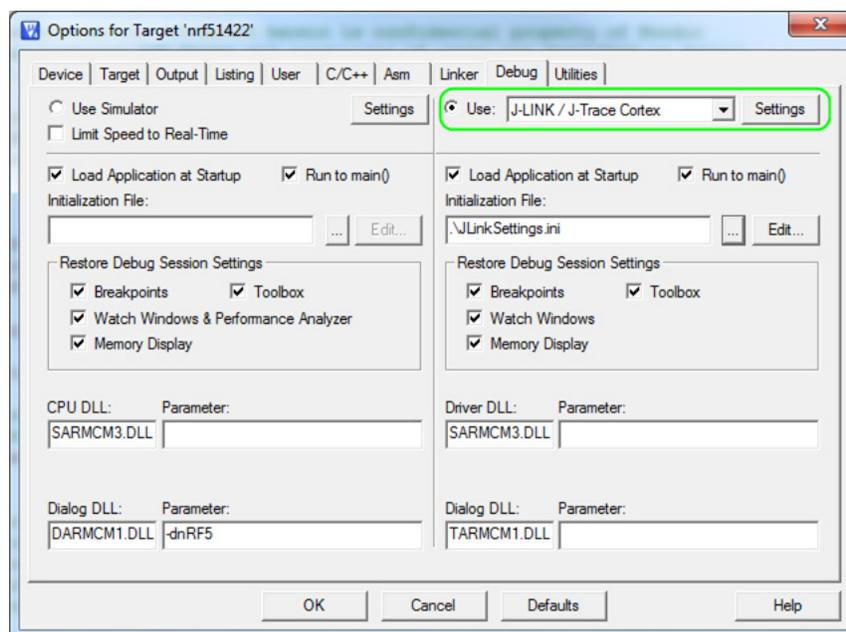

Figure 36 Selecting JLink debugger in Keil
3. Under the **Debug** tab in the Use list, select **J-LINK / J-Trace Cortex** option as shown in **Figure 36**.
4. Click **Settings** as shown in **Figure 36**. Both the SEGGER Control Panel and the Keil Target Driver Setup will open.